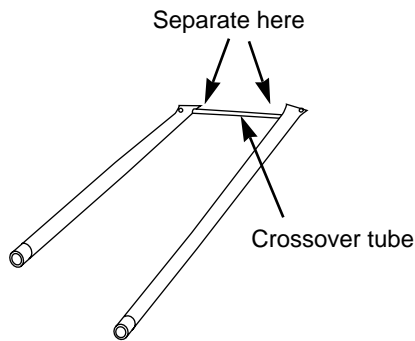

Figure 21
13. Lift and twist the burner assembly slightly to separate the crossover tube from the burners. Remove the burners from the cooking box. Figure 21.